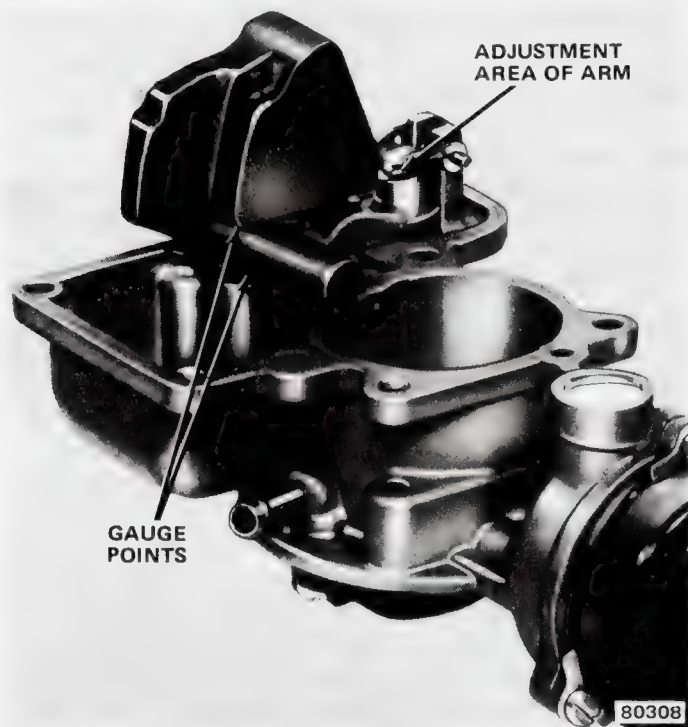

Fig. 1J-51 Float Level Adjustment
(1) Remove carburetor air horn and gasket from carburetor.
(2) Invert air horn assembly and check clearance from top of float to bottom of air horn with float level gauge (fig. 1J-51). Hold air horn at eye level when gauging float level. Float arm (lever) should be resting on needle pin. Do not bend tab at end of float arm. It prevents float from striking bottom of fuel bowl when empty.